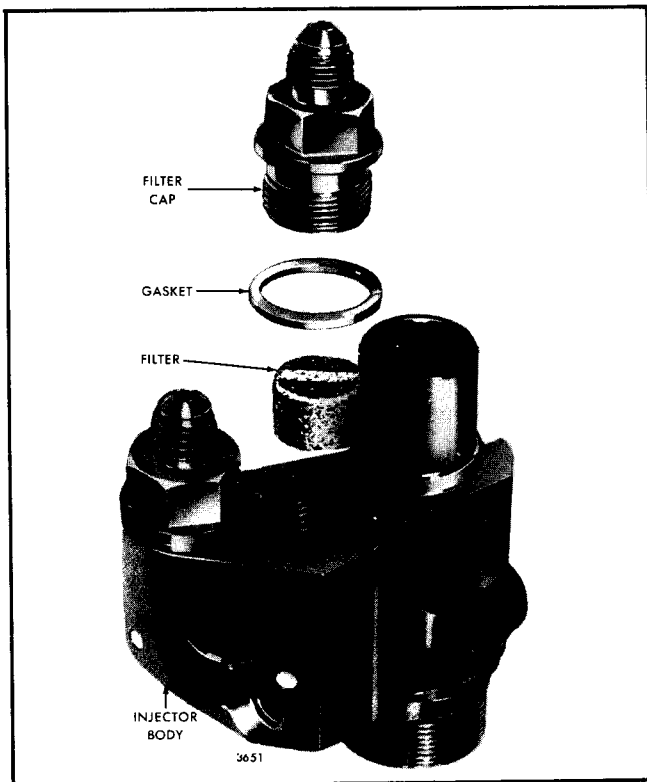

Fig. 36 - Details of Injector Filters and Caps and Their Relative Location
1. Insert a new filter, dimple end down, slotted end up, in each of the fuel cavities in the top of the injector body (Fig. 36).